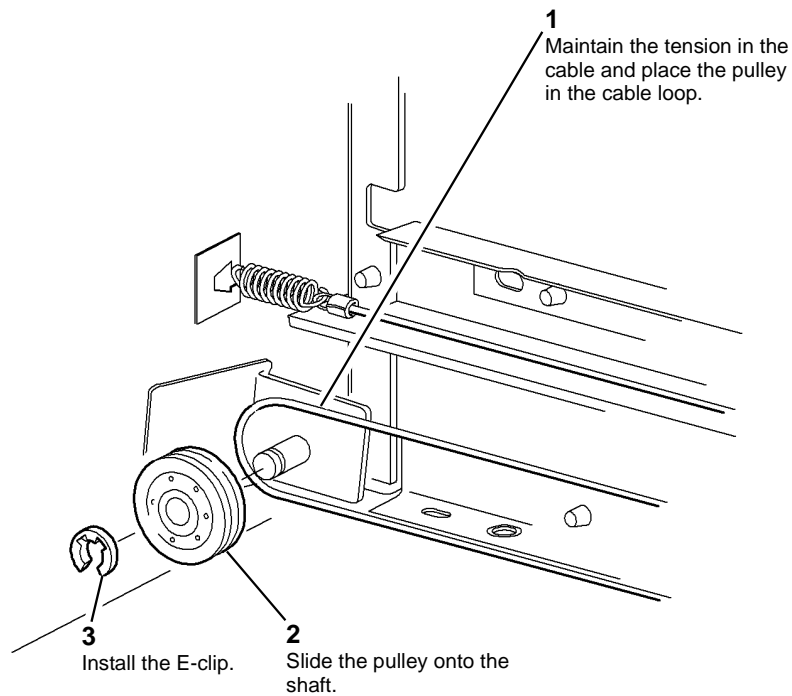

Figure 2 Scan idler pulley replacement
2. Make sure the scan idler pulleys are installed correctly, Figure 2.